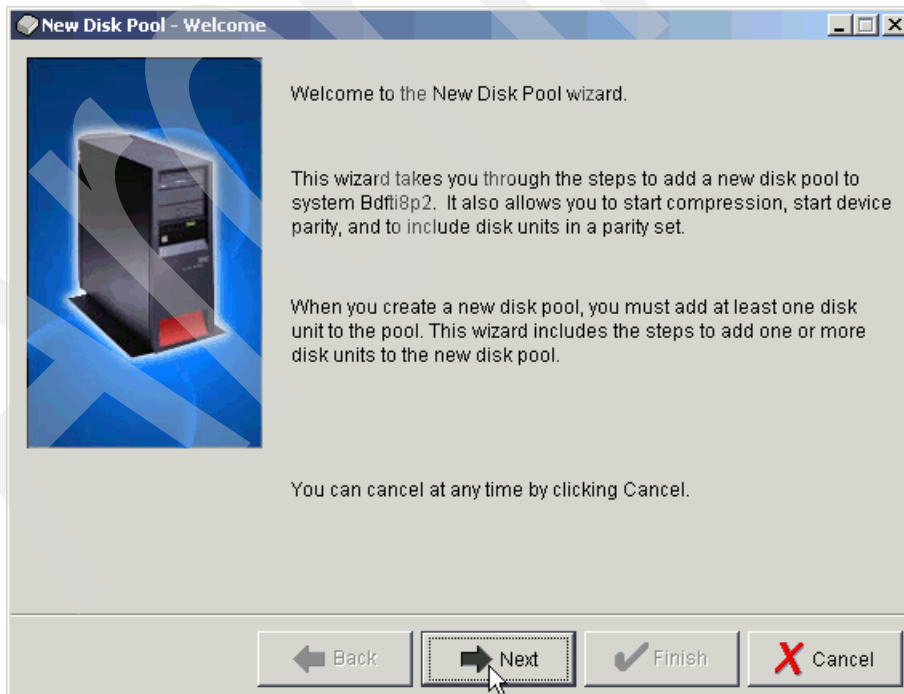

Figure 5-26 New Disk Pool - Welcome window
5. The New Disk Pool wizard opens. Figure 5-26 shows the Welcome window. Click **Next**.